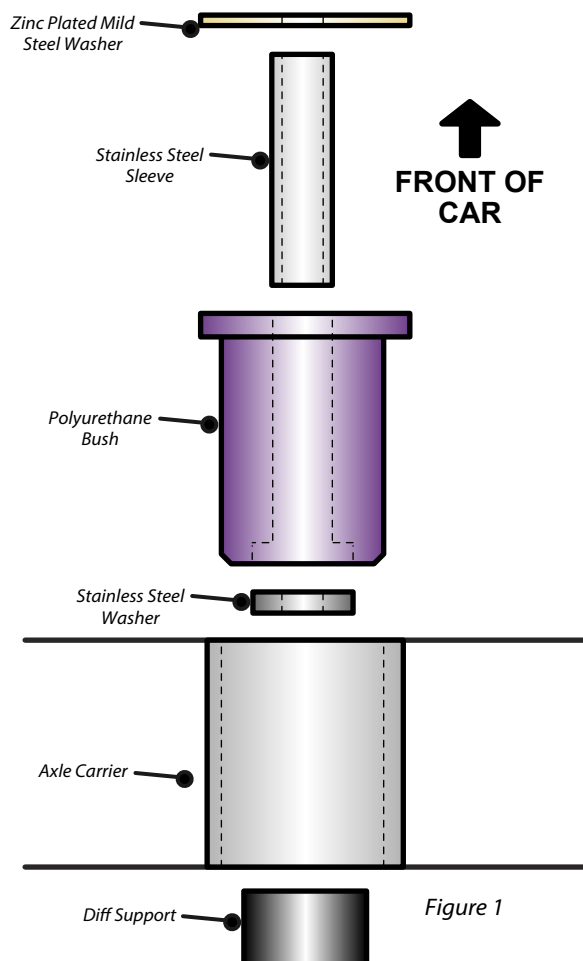

Figure 1
4. Push the new polyurethane bush into the axle carrier from the front, so the flange is facing the front of the vehicle as shown in Fig 1. The chamfered nose of the bush and stainless steel washer will therefore sit up against the diff support bracket.